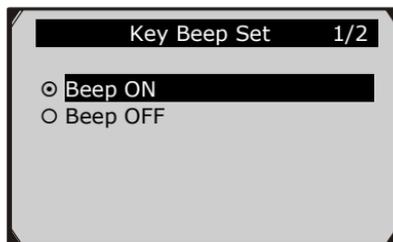

Figure 3.7
- 2) From **Key Beep Set** menu, use the **SCROLL** button to select **Beep ON** or **Beep OFF** to turn on/off the beep. (Figure 3.7)